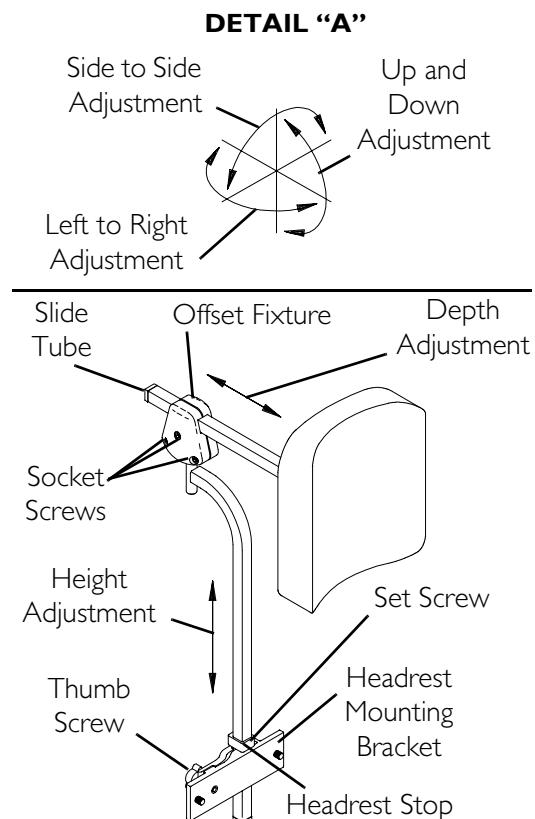

FIGURE 15.1 Removing/Installing/Adjusting Headrest
NOTE: For this procedure, refer to FIGURE 15.1.
3. If necessary, reposition the headrest to the desired position (headrest will move in any direction). Refer to DETAIL "A" in FIGURE 15.1.